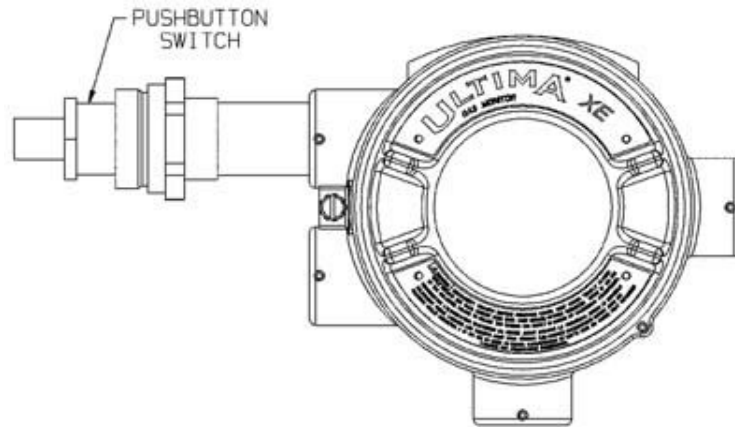

Fig. 23 Ultima X Optional Push-button Calibrator
- Optional Push-button Calibration (Fig. 23). Instructions for use of the optional push-button are given in 6 "Appendix A, Optional Features".